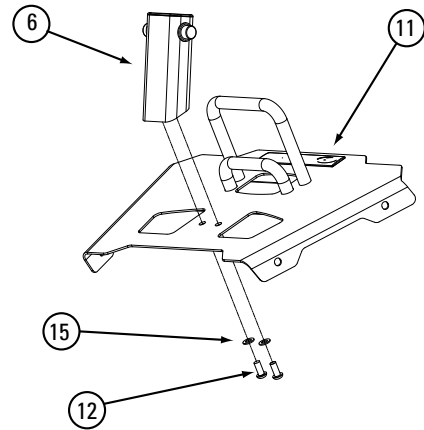

Figure 3
- 3-1** Attach the Preacher Curl Mount (#6) to the Base Plate (#11) using the hardware as shown in **Figure 3**. The Curl Mount should lean toward the U-shaped bars on the Base Plate.